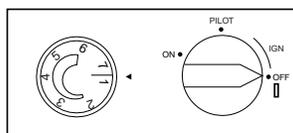

Figure 19 - Dual Control for Thermostat Models FAS-3B and FAS-5B
- Push in control knob slightly and turn clockwise to the OFF position. Be sure that the temperature setting knob is set at the line between level 1 and level 7 (see Figure 19).
- Press in control knob and turn counterclockwise past IGN to PILOT (see Figure 19). This will cause the piezo ignitor to spark and light the pilot gas. Keep control knob depressed for 10 seconds before releasing. If needed, repeat steps 5 through 7 until pilot lights.